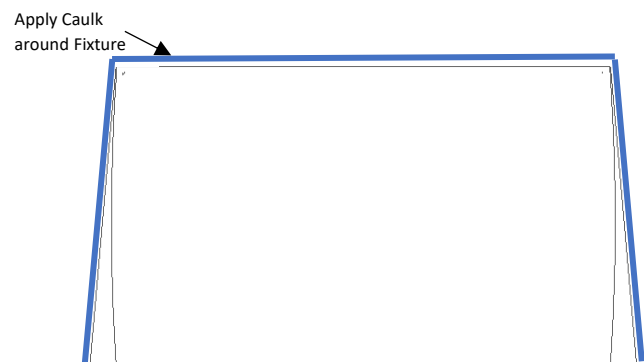

Figure 9
9. Apply caulk between the fixture and the wall on the top and sides (Figure 9).